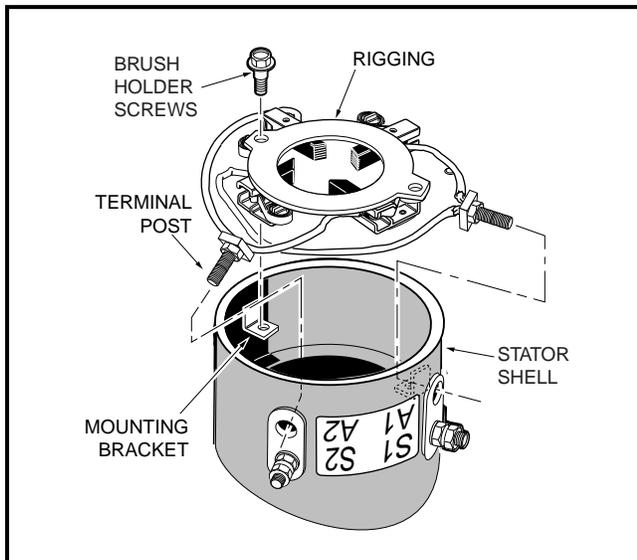

Figure 15-15 Brush Installation
3. With brush rigging facing down and held slightly above the stator shell, insert the two terminal posts through the insulators in the stator shell wall at the A1 and A2 positions. Insert the brush holder screws through the rubber sealed holes in the rigging and into the threaded holes in the mounting bracket (**Figure 15-15, Page 15-12**). Tighten the screws to 20 in.lb (2.2 N-m).